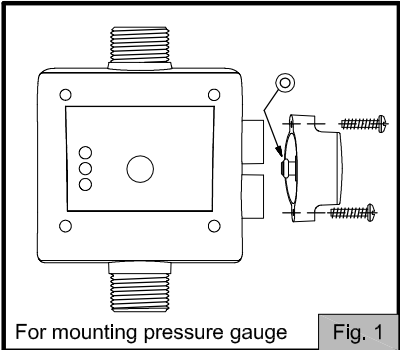

Fig. 1
Before proceeding with hydraulic connection it is essential to prime the pump correctly. The COMPACT 2 should be installed in a vertical position, thus connecting the inlet opening (male 1") directly to the pump outlet; and the outlet (male 1") to the network. The following accessories are recommended: flexible with a disassembling link for network connection, protecting the set from possible flexion charges and vibrations, ball valve which permits the isolation of the pump from the installation a tap (A) on the same level as COMPACT (FIG.1).
INSTALLATION OF THE PRESSURE GAUGE (FIG. 1) (OPTIONAL)